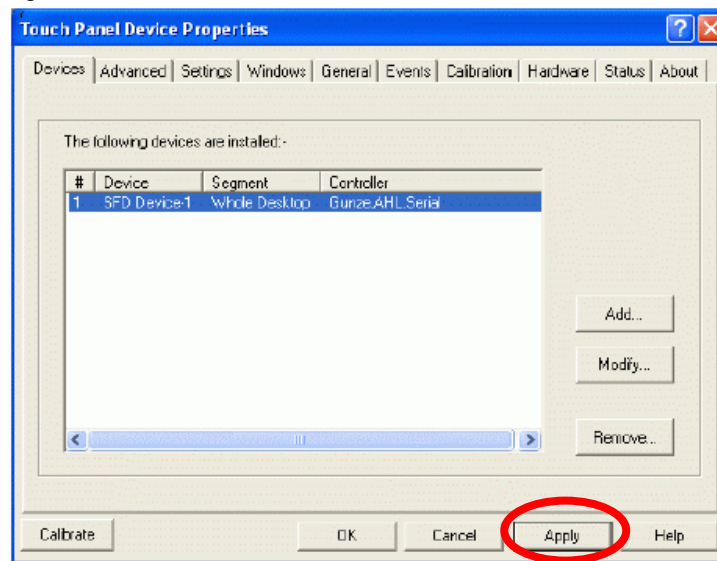

Figure 4
8. The Touch Panel Device Properties screen appears again. Click “Apply”. See Figure 4.